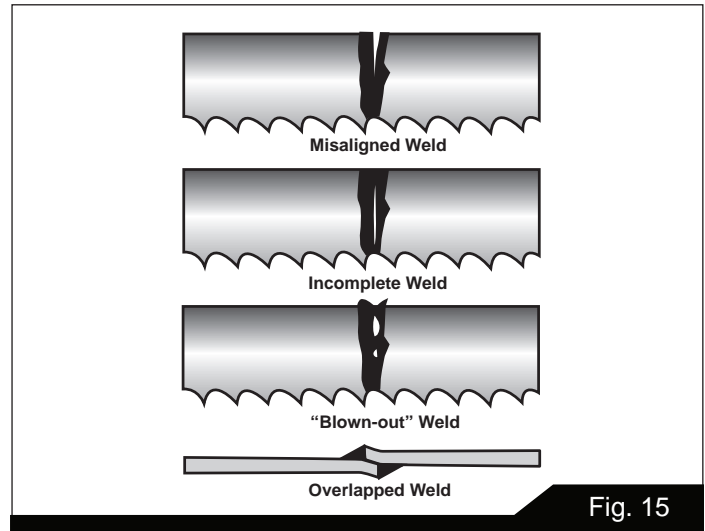

Fig. 15
10. Remove blade from clamps, and carefully inspect it. The spacing of the teeth should be uniform and the weld should be located in center of gullet. Misalignment is easily noted at this time from the weld appearance. See Figure 15 for examples of incorrect welds.